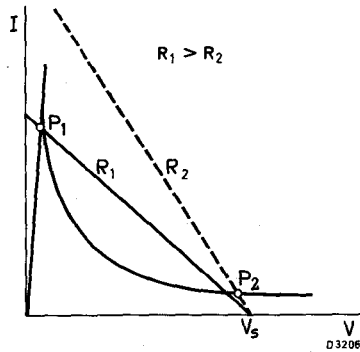

Fig. 8
- (3) the load resistance decreases (figure 8).
If a p. t. c. thermistor is connected in series with a resistor of such a value that the peak of the voltage/current characteristic lies under the resistance load line (fig. 8), the p. t. c. thermistor will heat up until its resistance value causes the stable working point P_2 to be reached (fig. 8). The time taken to reach point P_2 depends on: